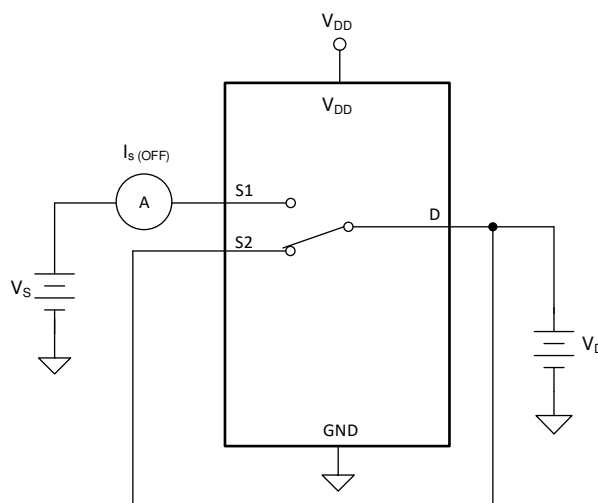

**Figure 7-1. On-Resistance Measurement Setup**
The on-resistance of a device is the ohmic resistance between the source (Sx) and drain (D) pins of the device. The on-resistance varies with input voltage and supply voltage. The symbol  $R_{ON}$  is used to denote on-resistance. The measurement setup used to measure  $R_{ON}$  is shown in Figure 7-1. Voltage (V) and current ( $I_{SD}$ ) are measured using this setup, and  $R_{ON}$  is computed with  $R_{ON} = V / I_{SD}$ :